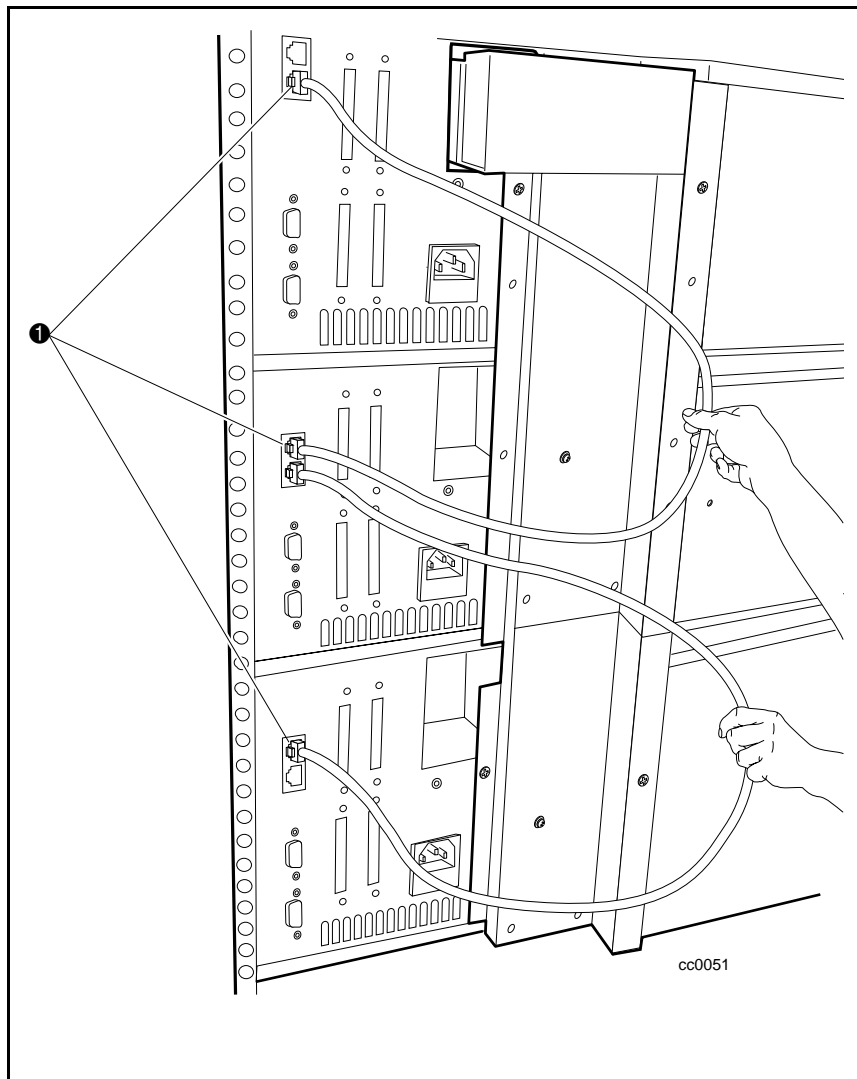

Figure C-34. Connecting to Library units
2. Use additional patch cables to connect successive slave units to the master unit. Connect all Library units in a daisy-chain fashion (1 Figure C-34).